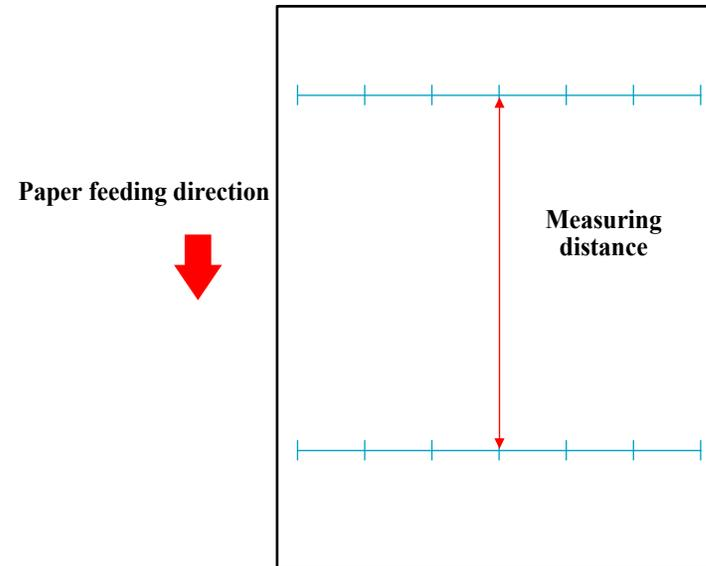

Figure 5-52. Adjustment Pattern
4. Measure the distance as shown in Figure 5-52.